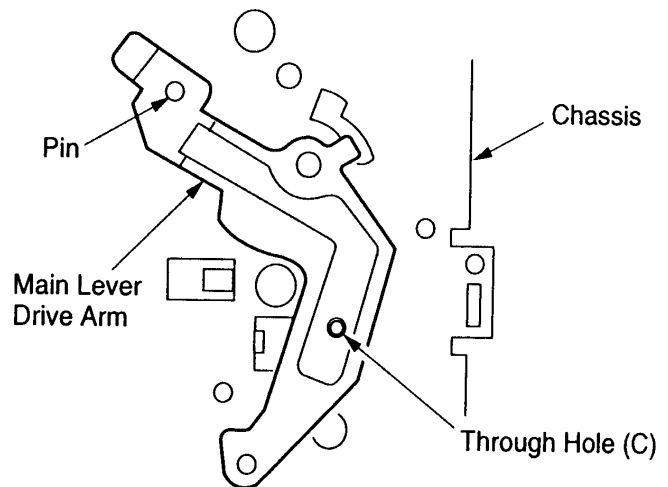

Fig. 11 - P5 Arm Unit/Main Lever Drive Arm Removal
Note: When reinstalling, install the main lever drive arm so that hole (C) is aligned with the through hole (C) as shown in Fig. 11.